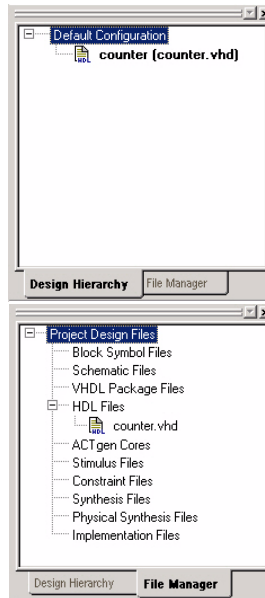

Figure 3-8. Design Hierarchy and File Manager Tabs
3. From the **File** menu, click **Save**. The design file `counter` appears in the **Design Hierarchy**. Libero IDE lists `counter.vhd` under HDL files in the File Manager, as shown in Figure 3-8.